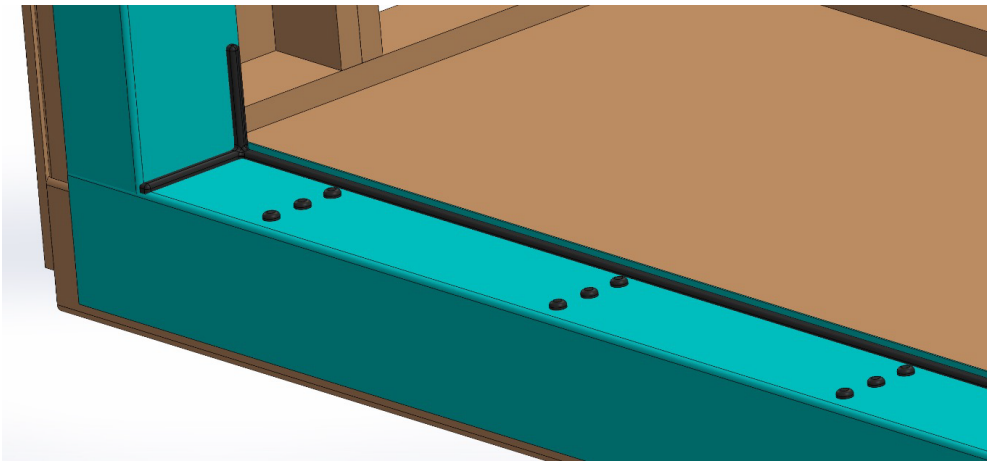

Figure 2
12. With the sill assembly removed, and clean from debris, apply a 1/2" bead of sealant to the floor from jamb to jamb along the exterior edge of the mark previously applied to the floor. The sealant should be applied in a U-shape to ensure a proper and complete water-barrier has been accomplished across the full width of the sill opening. Sealant should also be applied a minimum of 6" up each side of the opening to which the jambs, end plates, or post inter-lockers will need to be sealed. See Figure 2. Apply additional sealant across the threshold perpendicular to the existing bed of sealant from arrow to arrow. Inspect the sealant carefully to ensure that a complete water barrier has been accomplished across the pocket opening/s, at the lock jamb and along the outside edge of the mark indicating the inside edge of the threshold. Locate and apply the factory-applied sealant on the bottom side of the threshold between the points where the post interlock frame members will attach and at the lock jamb end. It is very important that this factory-applied sealant contacts the sealant added to the floor.